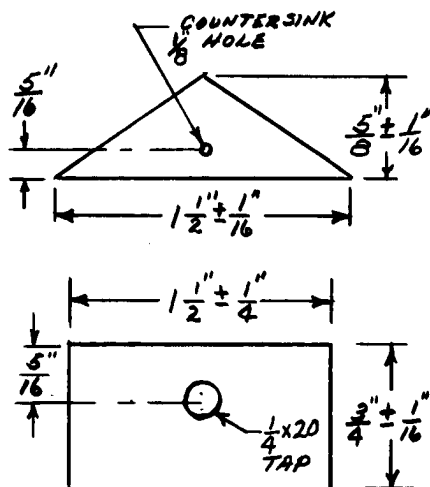

Figure 3
2. Make the two plates shown in Figure 3. Material to be 1/8" TK stainless steel or brass plate.